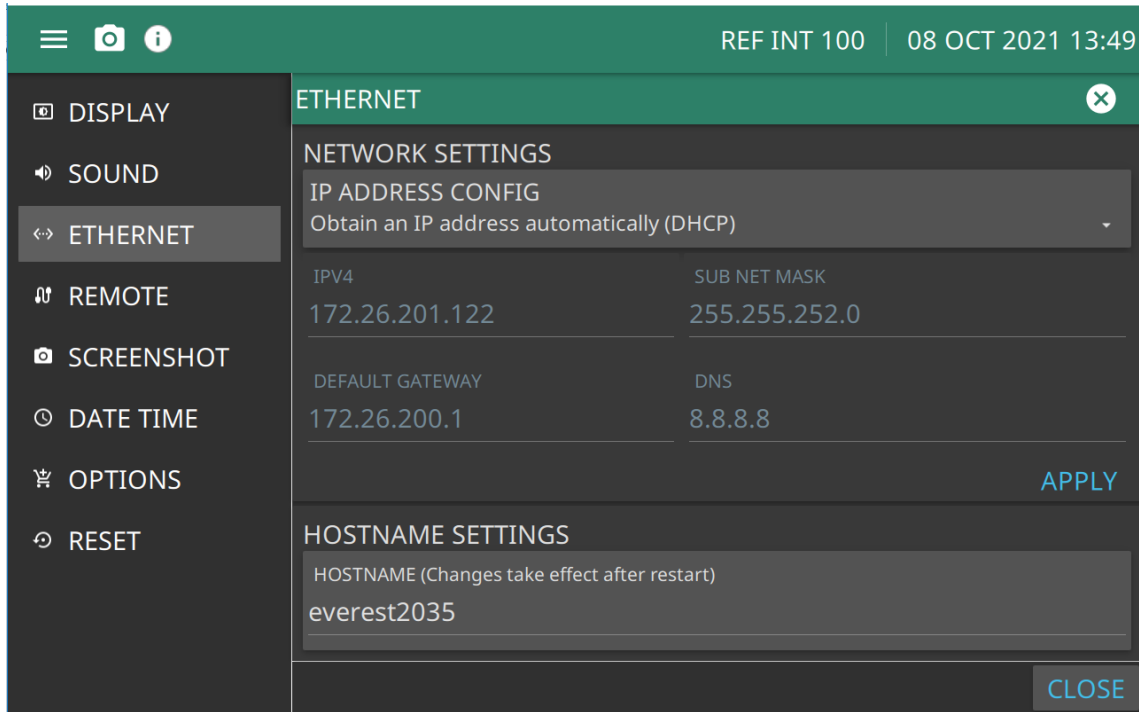

Figure 1-6. Network Settings
2. Press; 3-line icon | SETTINGS | ETHERNET displays the network settings as shown in Figure 1-6.